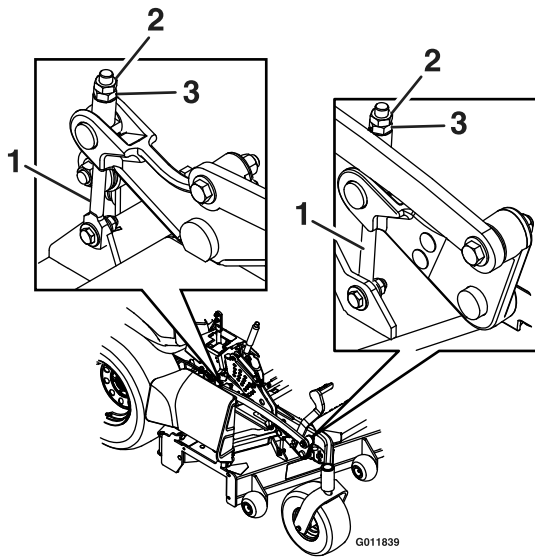

Figure 29
10. For LZZ-LP Units: Loosen the jam nuts on the top of each deck link. Fine tune the adjuster on the front deck lift assembly by turning it to get 3 inch (7.6 mm) height (see Figure 29).